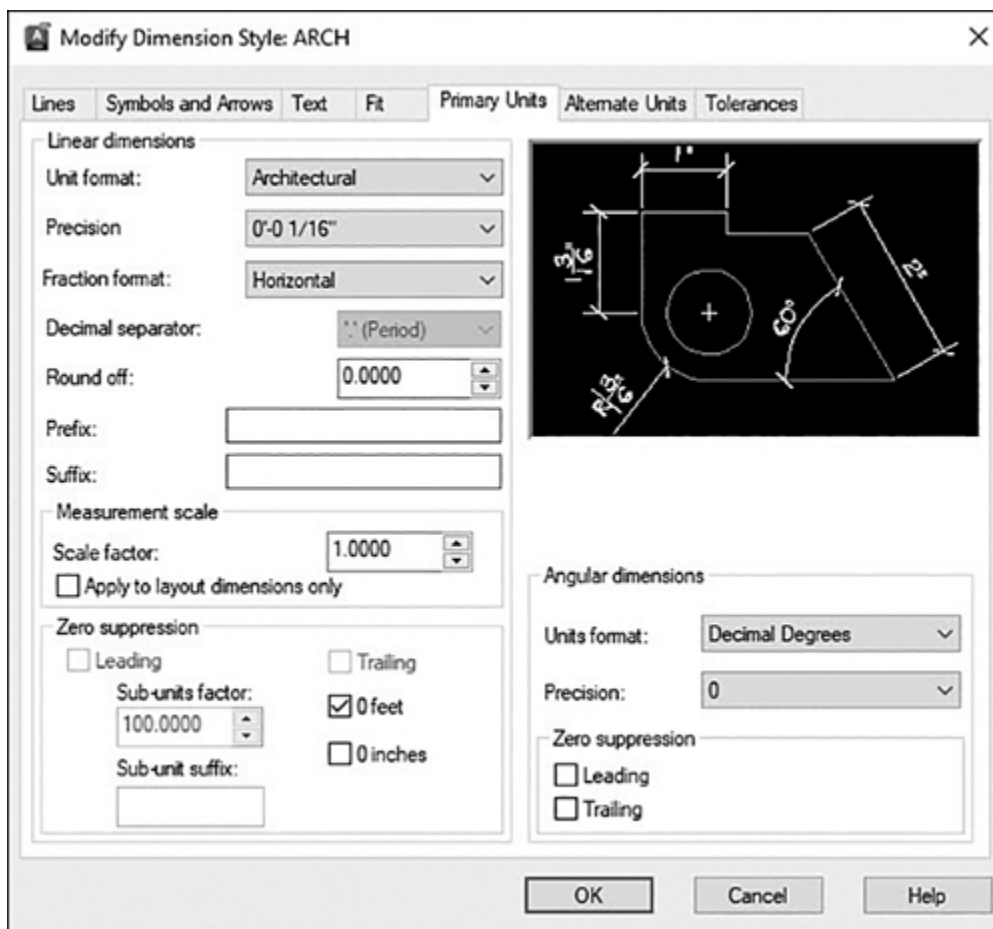

Figure 13-105
3. Create a dimension style called **ARCH**. Use the settings shown in Figures 13-105 through 13-110.
3. Create a dimension style named **ARCH** with the settings shown in Figures 13-105 through 13-110.
2. Create a dimension style called **ARCH**. Use the settings shown in Figures 13-105 through 13-110. On the **Fit** tab, select the **Annotative** scale setting check box in the **Scale for dimension features** area to turn on annotation scaling.